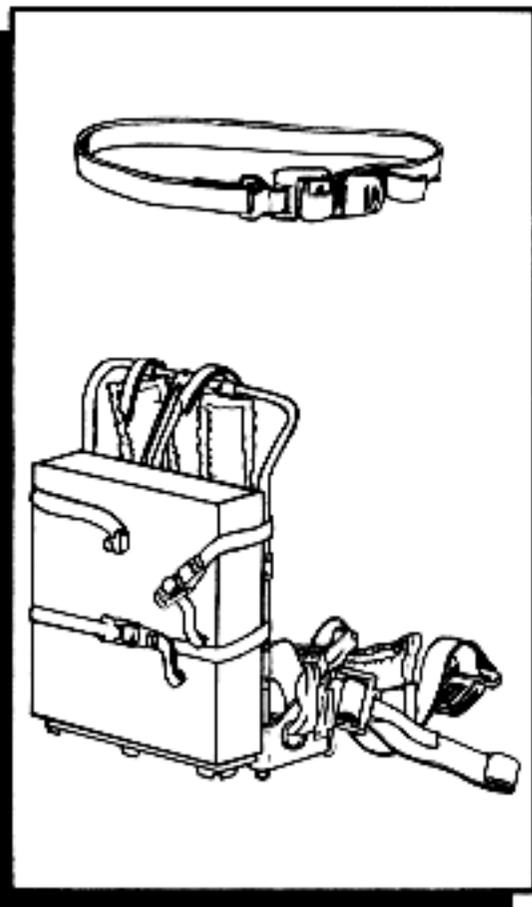

Figure 4-28. Attaching cargo to pack frame.
**Attaching Cargo to Pack Frame.** Use the cargo tiedown straps to secure a load (such as a 5-gallon can, ammunition case, field ration case, or radio) to the pack frame (figure 4-28). First, wrap the tiedown strap around the load and the frame. Next, place the flat hook end of the tiedown strap into the slot at the buckle, and pull the loose end to tighten, leaving a little slack in the strap. Then push the fastener into the closed position. This takes up the slack and tightens the strap around the cargo. Leave enough slack in the strap so that when you close the fastener, the strap will not crush the cargo. To open the fastener, pull up on the end of the strap.